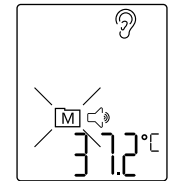

Figure 4
- Before performing the measurement, you can retrieve the last measured temperature value by pressing the MEMO button. The last measured temperature value is shown together with the flashing  icon at the bottom of the display (Figure 4). The thermometer then switches back to measuring mode.